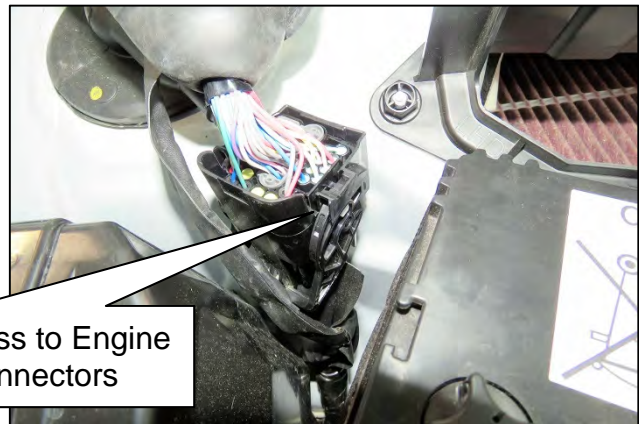

Figure 2
10. Disconnect the Engine Control Harness connector from the Engine Room Harness connector (Figure 2), located under the dust boot.